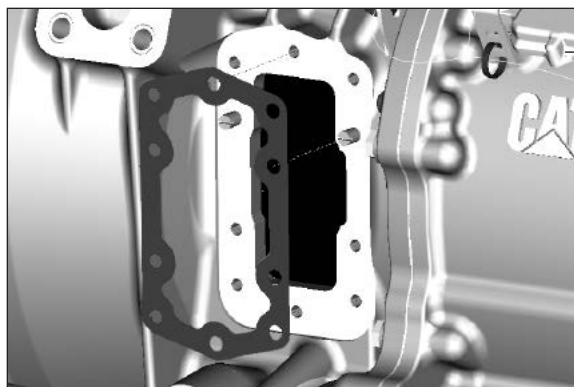

Figure 33
4. Install the special gasket over the guide pins. The ribbed surface should face outward, toward the installer (**Fig. 33**).